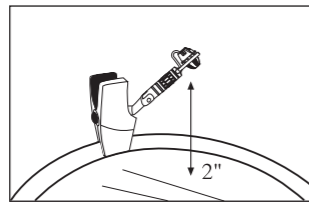

Figure 2
2. Adjust the mic. shaft to aim microphone at precise sound source position, recommended distance between the microphone and the drum surface is 2 inches. ( (Figure 2)